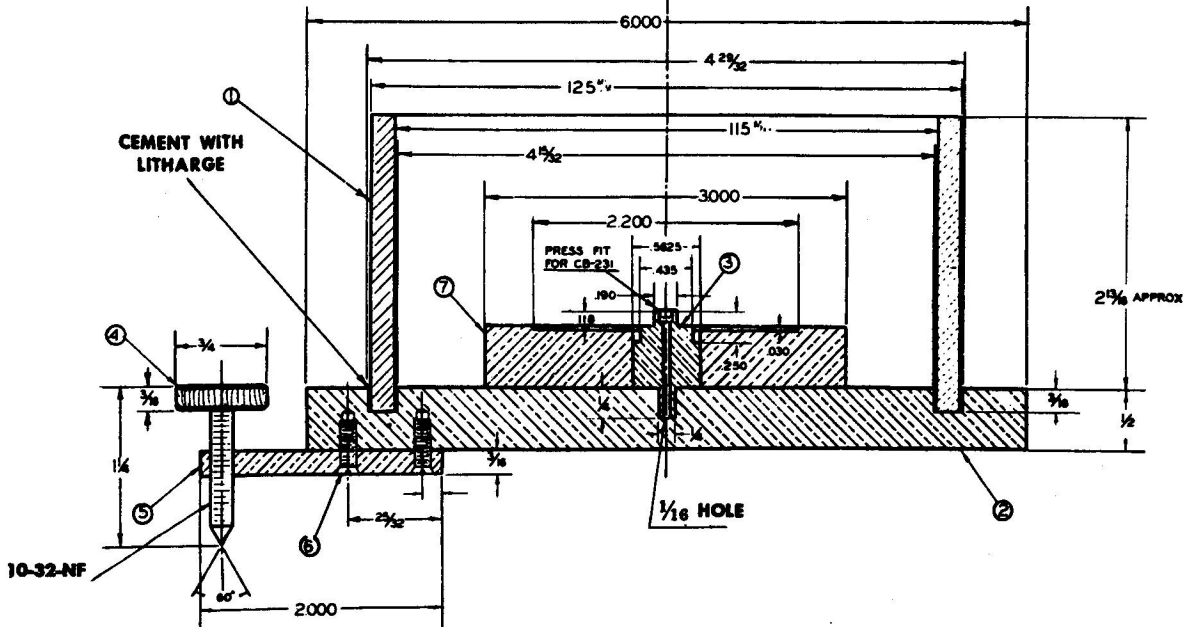

Figure 39 — Balance Stand
f. BALANCE STAND.—(See figure 39.) The stand shown is used to balance the compass card assembly. A jeweled boss provides the means for mounting the card element. When the bowl is filled with compass liquid, the card assumes its correct position. The level of the float is checked against the compass rose that sets in the bottom of the bowl.